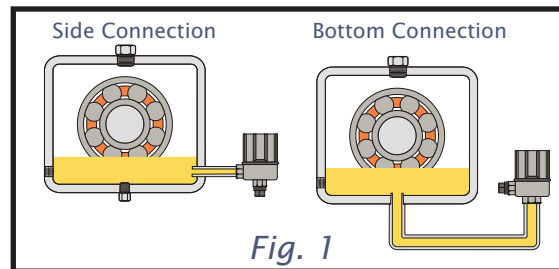

Fig. 1
3. Connect lower casting to bearing chamber either through the side connection or through the bottom connection (Fig. 1). Use thread compound on all threaded areas, except supplied plug.